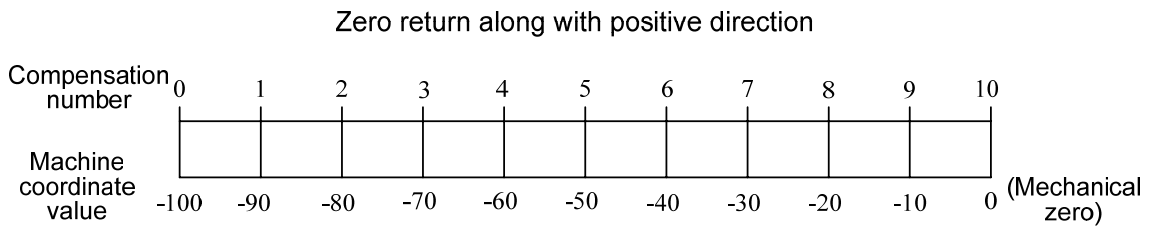

Fig. 4-7-1
- ① The dimension of the pitch compensation number for each compensation point is corresponding to the one of the coordinate value by this point; that is, the bigger the compensation point of the machine coordinate value is, the bigger the corresponding compensation number is.
- ② When the pitch error compensation is set as required in one area, usually, the compensation number of its least compensation point which locates on the coordinate system of this area is regarded as 0. The pitch compensation number of reference point is determined by the position relationships between the reference point and the No.0 compensation point.
③ **For example:** It is supposed that the travel of the machine is 100mm, the compensation interval of the pitch error is 10mm, and the compensation number is from No.0 to No.10. And then, the pitch compensation number of the reference point is decided as follows:
A. The zero direction of the machine is the positive one. The least value of the machine coordinate system in this area is -100, then the compensation number on the -100 point treats as 0; and therefore, the compensation number of the reference point can be calculated as No.10 based upon the position relationships between the reference point and No.0 compensation point; refer to the Fig. 4-7-1: